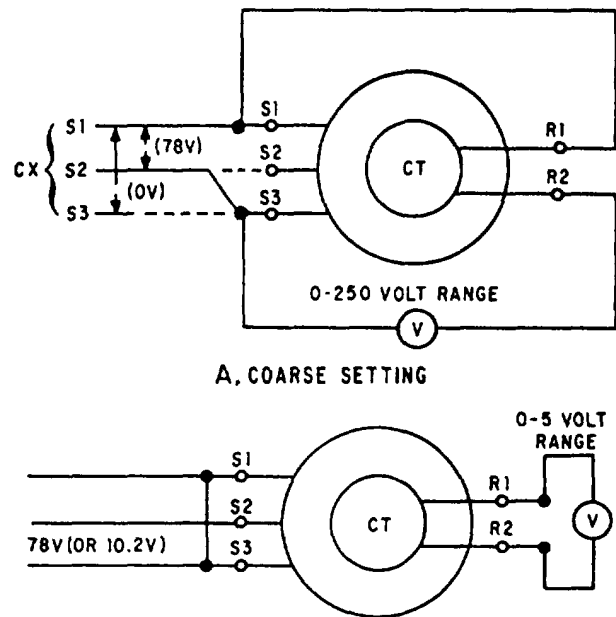

Figure 2-9.—Zeroing a control transformer by the voltmeter method.
3. De-energize the circuit and connect the circuit as shown in figure 2-9, view A. To obtain the 78 volts
4. De-energize the circuit, reconnect the S1, S2, and S3 leads back to their original positions, and then connect the circuit as shown in figure 2-9, view B.